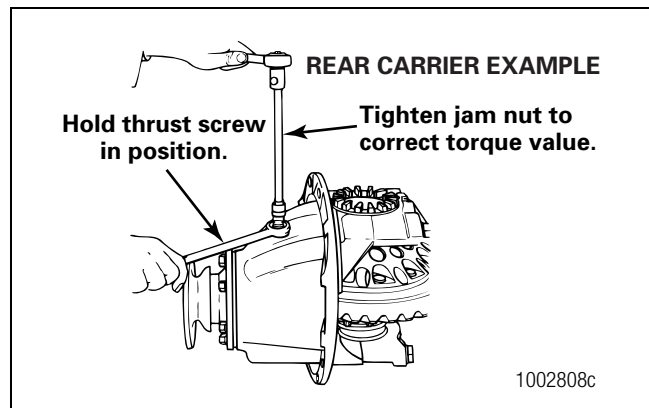

Figure 5.62
5. Tighten the jam nut, if equipped, to the correct torque value against the carrier. Refer to Section 8. Figure 5.62.